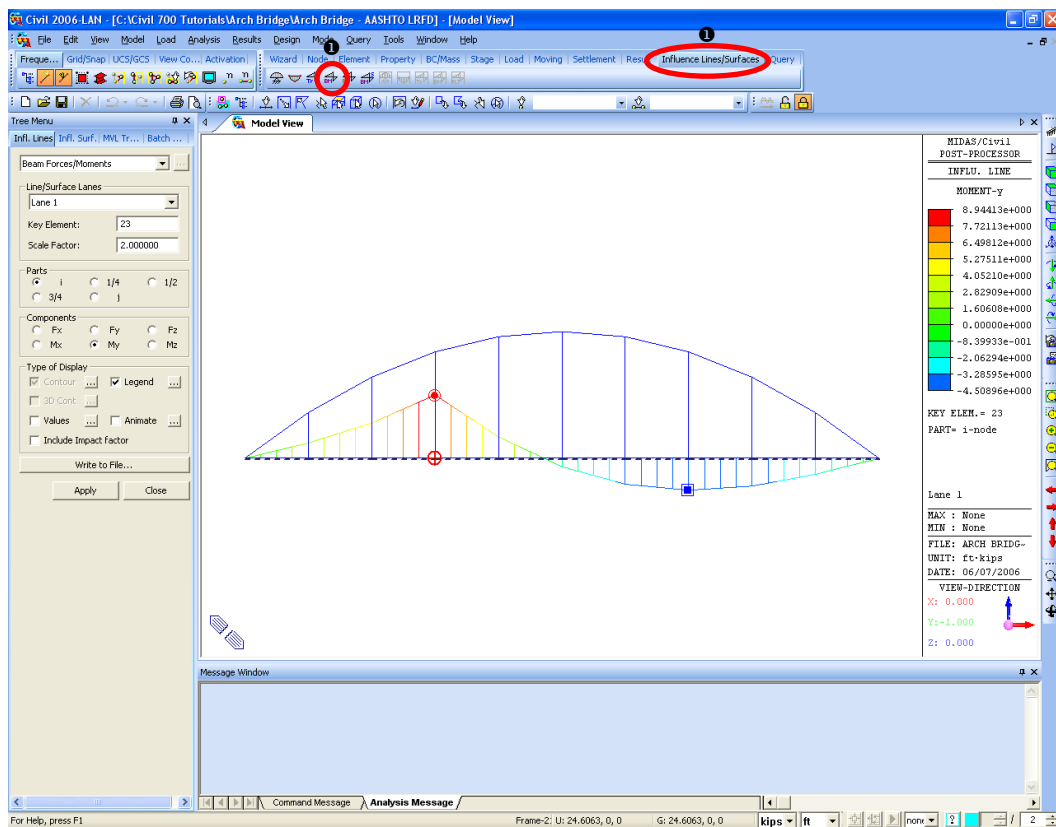

Figure 4.32 Moment Influence Line
Figure 4.32 shows the moment influence line.
1. Click  **Beam Forces/Moments** on the *Influence Lines/Surfaces* tab in the toolbar (Figure 4.32①).